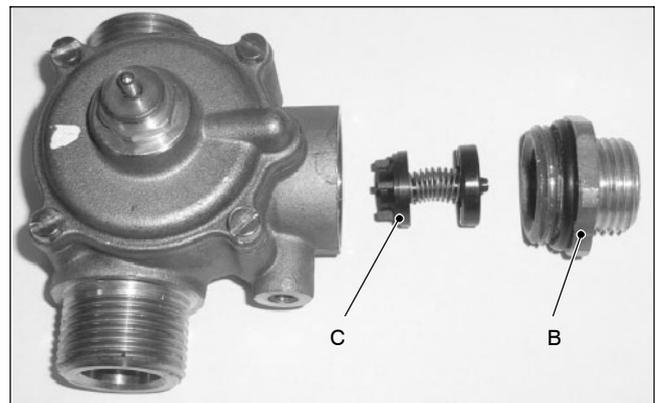
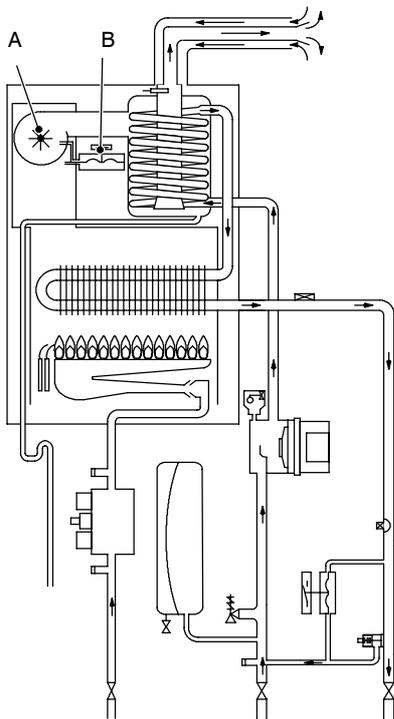

Fig. 2
Fig. 1
- 4 Unscrew the connector *B* and remove the by-pass valve *C* Fig. 2.
- 5 Reassemble the by-pass valve as illustrated in Fig. 2 reversing the order of removal.
The function of the Fan A (Fig. 1 and Fig. 2) is to force the products of combustion through the condensing heat exchanger to the outside air via the flue system.
Its correct functioning is controlled by means of an Air pressure sensor B (Fig. 1 and Fig. 2) .